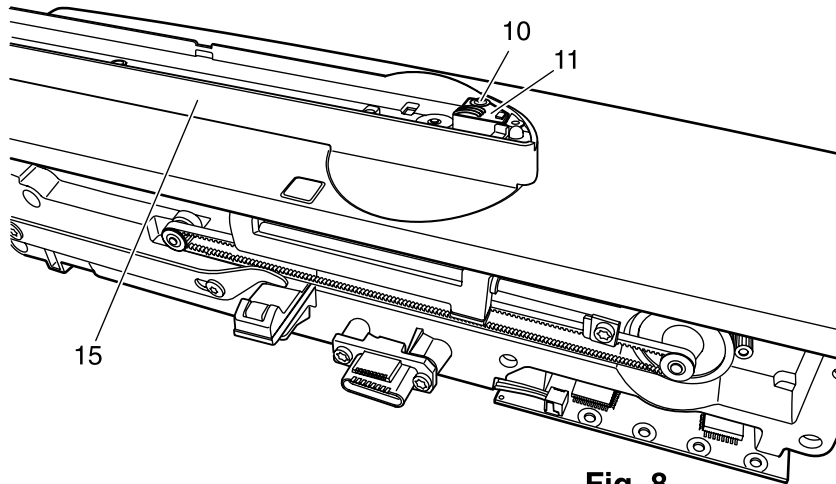

**Fig. 8**
1. Screw down the circuit board 11 of the Hall generator into the swivel arm lower part 15 (Fig. 8).